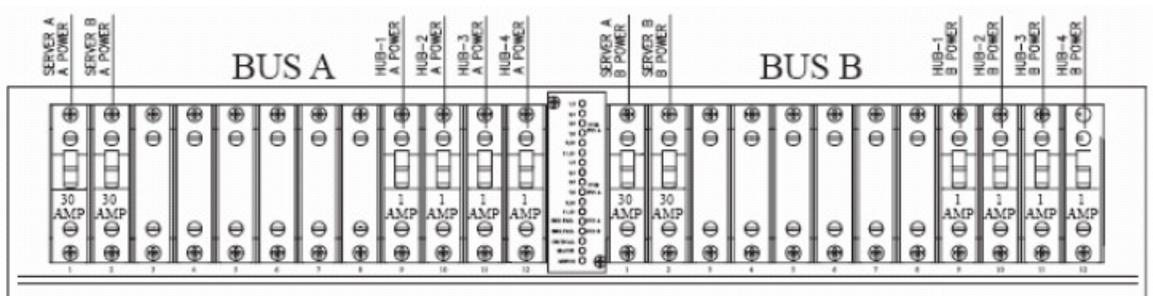

Figure 30: Breaker Panel Setting
2. Look at the breaker panel assignments in *Figure 30: Breaker Panel Setting*. For each breaker assignment, verify that the corresponding LED in the PWR BUS A group and the PWR BUS B group is illuminated Green.